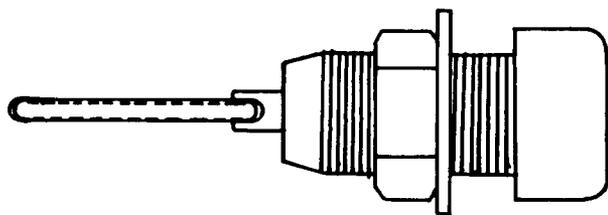

Fig. 4 — KS-20667-type Pin Jack
**2.04 KS-20667, L19 Through L34:** The KS-20667, L19 through L34, pin jacks (Fig. 4) accommodate 0.080 inch diameter pin plugs and contain a solderless wrap tail. The jacks are intended for use in various units of the N2 Carrier System.